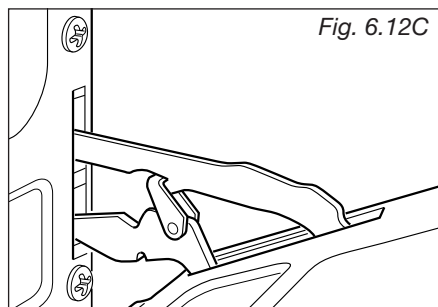

Fig. 6.12C
- Gently close the door and withdraw the lower hinge pins from their location (fig. 6.12C).